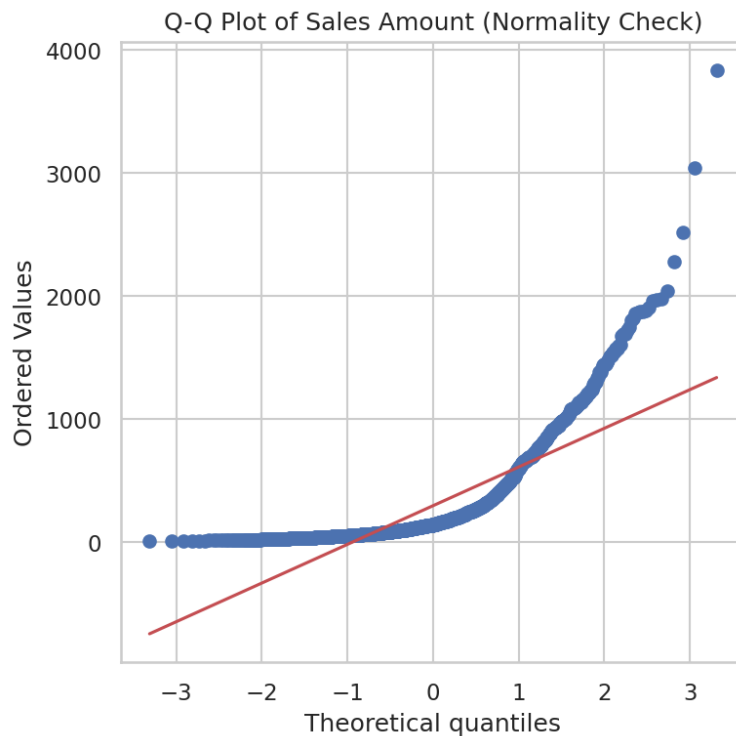

Figure 9: Q-Q plot of sales amount (normality check)
- All monetary and count variables sit on linear scales, apart from the Q-Q plot (Figure 9), which uses a theoretical-quantile scale to compare the data against a normal distribution.